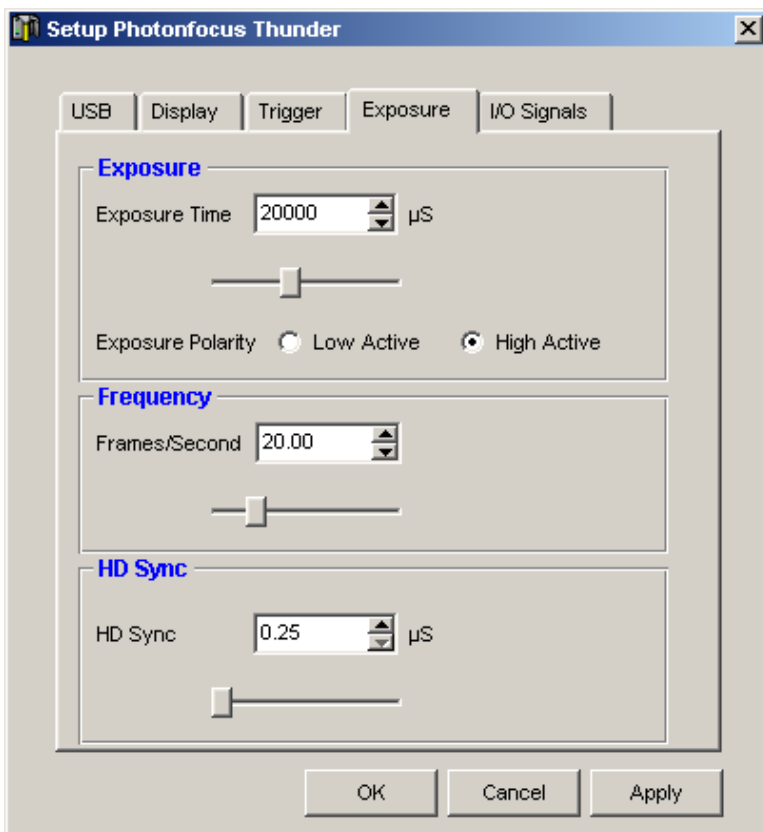

Figure 14: Configuration of the grabber-controlled trigger signal
- The 'exposure time' parameter in the exposure menu (see Figure 14) limits the maximum external trigger frequency that can be applied.